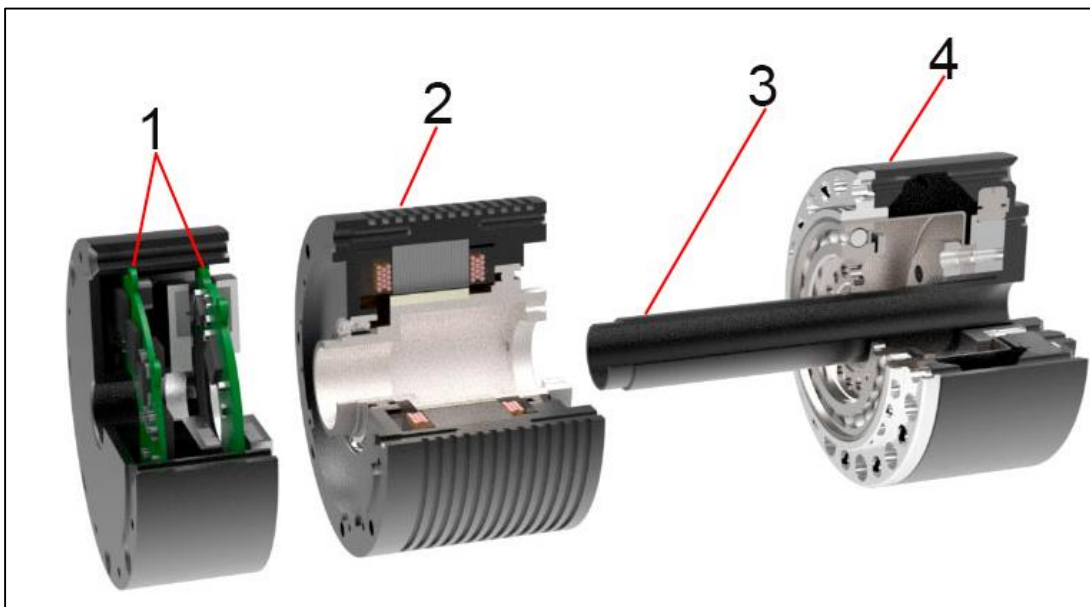

Figure 1-1: The components of an RDrive servo motor
Figure 1-1 is an exploded view of an RDrive servo motor in a housing.
(1)	Two printed circuit boards (PCBs) connected with each other by means of a BiSS line (not visible in Figure 1-1). One of the PCBs incorporates a controller and the other—two encoders.
(2)	A frameless brushless alternating current (AC) motor comprising a rotor and a stator, as well as a negative temperature coefficient (NTC) thermistor (fitted into the stator winding).
(3)	A hollow shaft for laying the cables to connect the servo to a machine.
(4)	A strain-wave gearhead that reduces rotation speed (RPM) and increases motor torque.
By design, the RDrive servo motor also comprises a **cable gland** (not visible in Figure 1-1) located on its rear flange (see Figure 4-1). The gland includes four wires: